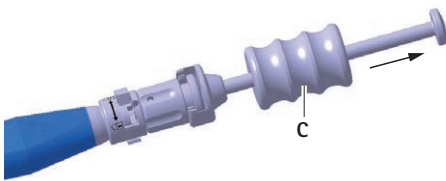

Fig. 6 Expelling the trial implant/implant with the slap hammer
- ▶ Carefully expel the trial implant **D** using the slap hammer **C** out of the intervertebral space, see Fig. 6.
- ▶ Carefully expel the implant **a** using the slap hammer **C** out of the intervertebral space, see Fig. 6.